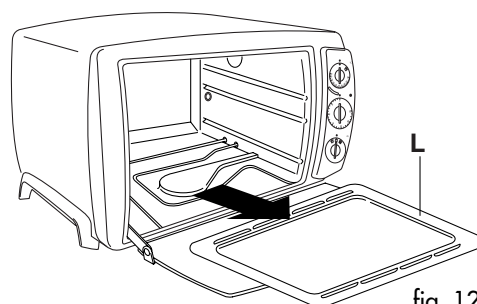

fig. 12
Remove the crumb tray (L) by pulling it outwards (see Fig. 12). In case of difficulty, wet the outside parts of the tray. Remove any dirt with a damp cloth.